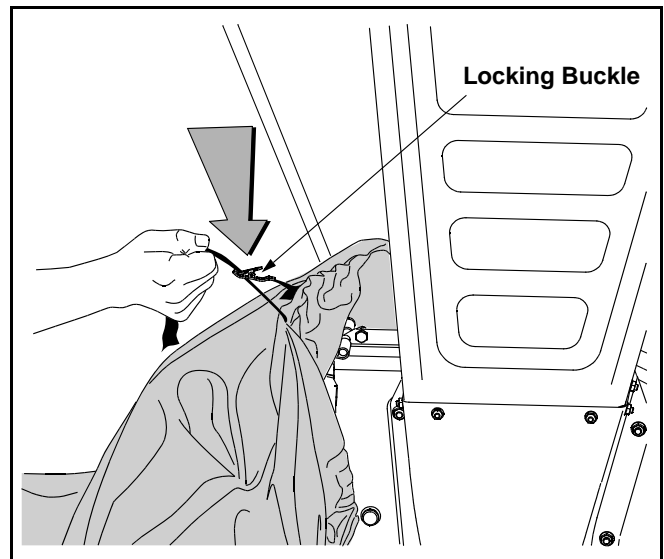

Figure 6
- Squeeze the locking buckle release the bag's drawstrap before loosening it from the discharge chute. See Figure 6.